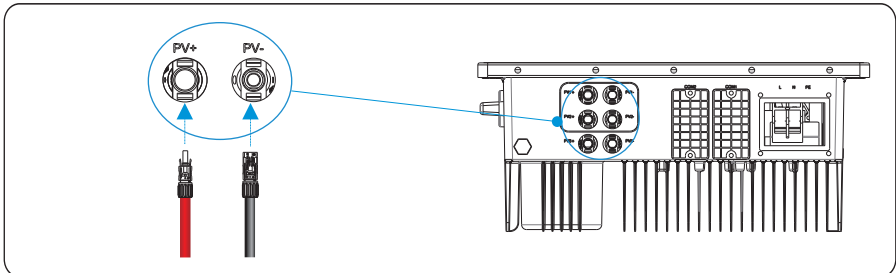

Figure 5.17 Connecting to the inverter
**Step 6** Insert the positive and negative connectors into their corresponding terminals of the inverter until a "click" sound is heard, as shown in Figure 5.17.